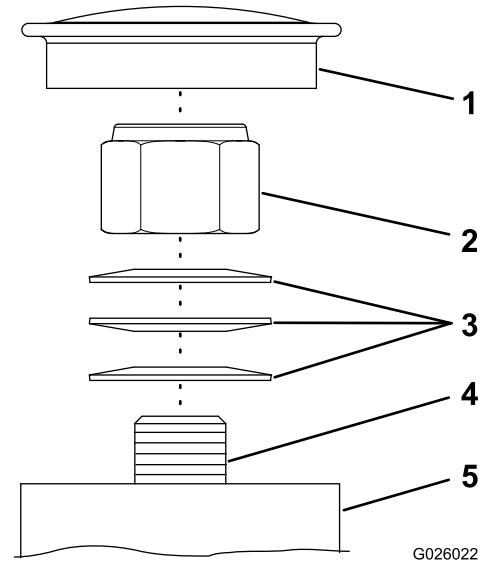

Figure 53
Note: If you disassemble the caster pivot bearings, ensure that the spring-disc washers are installed as shown in Figure 53.
1. Remove dust cap from caster hub (Figure 53).
2. Tighten the locknut clockwise until the spring-disc washers are flat (Figure 53).
3. Rotate the locknut counterclockwise 1/4 turn (Figure 53).
4. Install the dust cap (Figure 53).